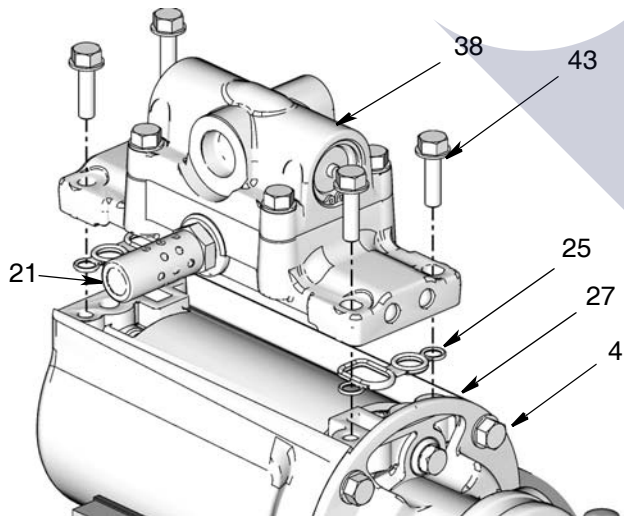

Fig. 17
13. Be sure seals (25) are lightly greased and installed on air valve (38). Install air valve on air cylinder (27) (Fig. 17).
**NOTE:** The air valve (38) can be installed in any configuration. There is not just one correct way to install these parts.
14. Install screws (43). Torque to 60-70 in. lbs (6.8 - 7.9 N.m).
15. Torque bolts (4) installed in Step 10 to 60-70 in. lbs (6.8 - 7.9 N.m).
### Muffler (21) Installation (Fig. 17)